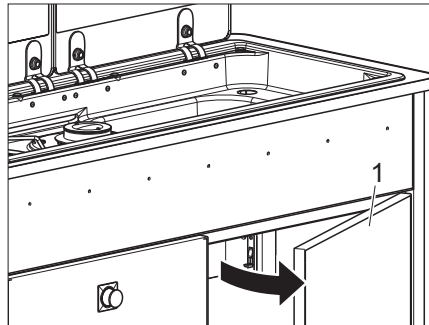

Fig. 81 Opening cupboard door
- Open the cupboard door (Fig. 81,1).
- Close the cupboard door (Fig. 81,1) again.